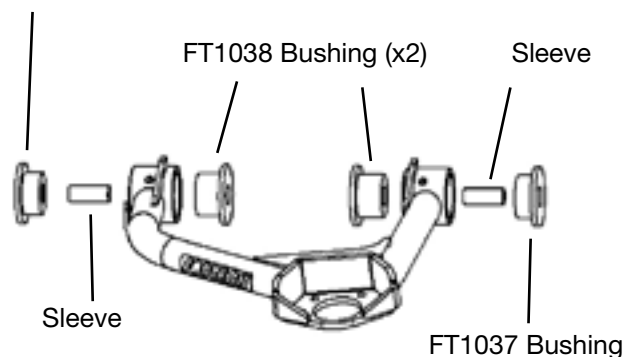

FIGURE 31 - STEP 23
23. Locate the new Fabtech control arms, two FT1038 bushings, two FT1037 bushings, two FT84 grease zerks, and two FT626 sleeves. Using the supplied grease packet, grease the bushings and sleeves before installing into the control arm. **SEE FIGURE 31**